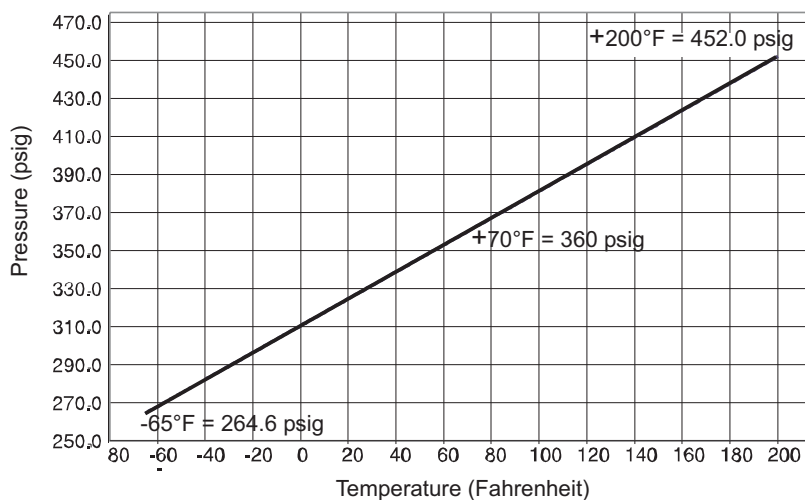

Figure 6-2. Temperature/Pressure Chart
2. Check the cylinder for leakage. If pressure is below normal, remove cylinder from service, repair and recharge (see Figure 6-2 for a chart of Pressures/Temperatures).